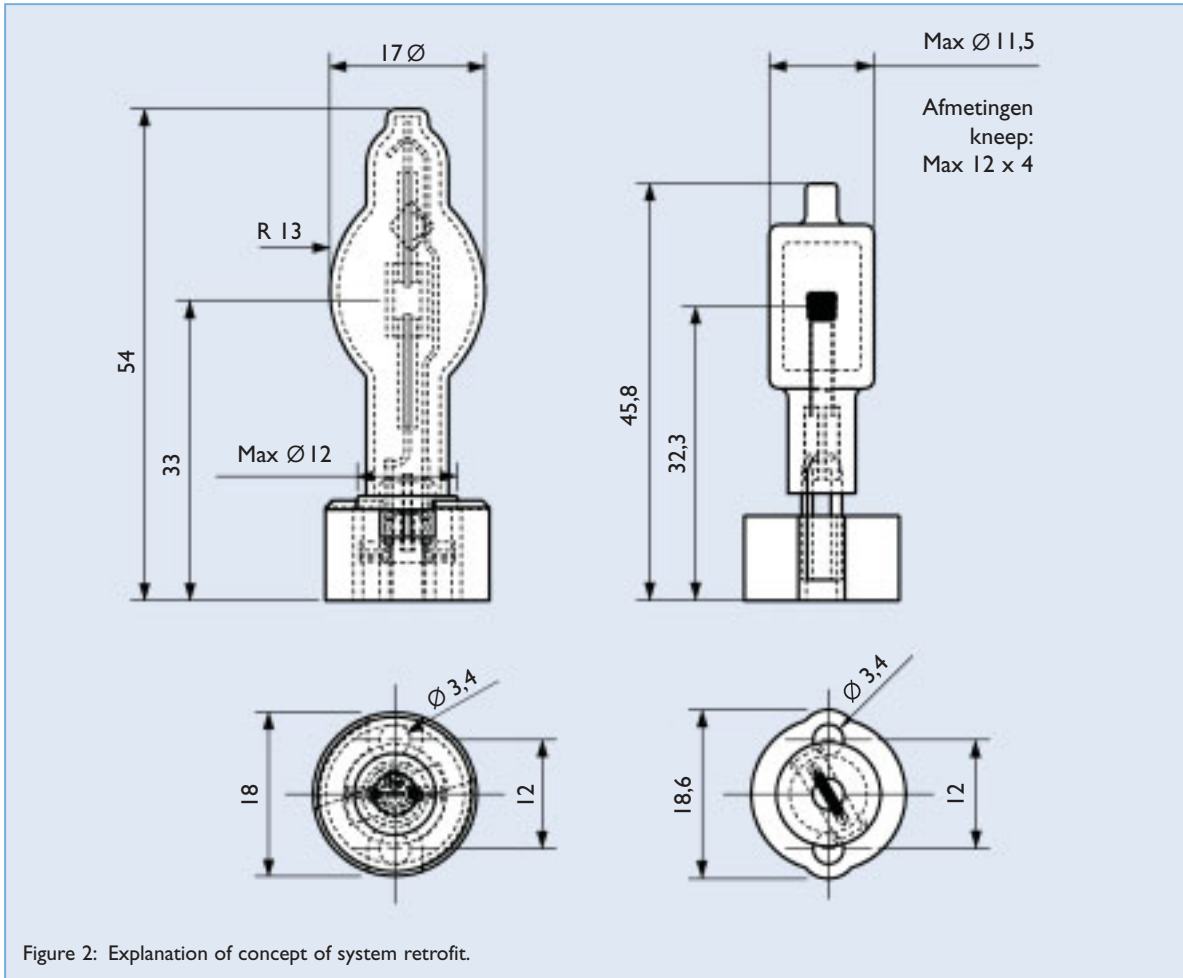

Figure 2: Explanation of concept of system retrofit.
- Key mechanical dimensions (light center length, diameter lamp holder, position mounting screws) of lamp and lamp holder are exactly the same as halogen (capsuleline PRO) with GY6.35 lamp holder (mechanical retrofit, see also figure 2).